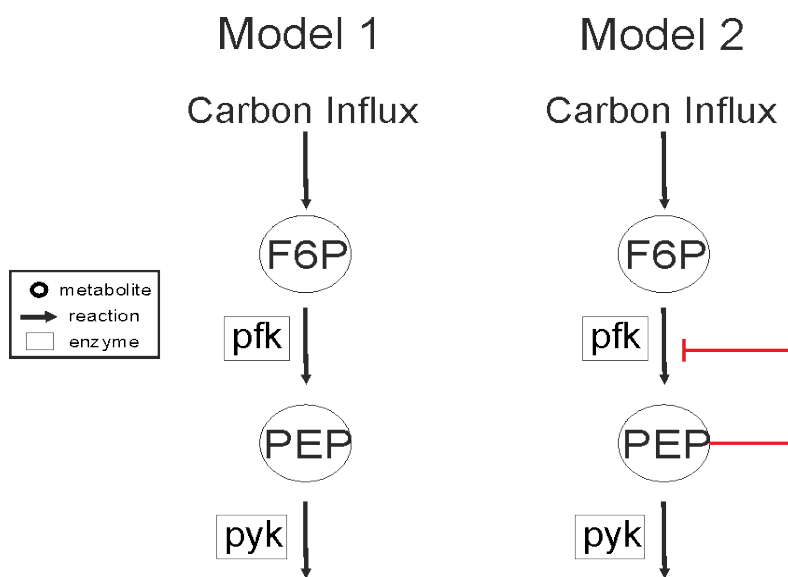

Figure 1: Reaction scheme of Model 1 and Model 2
The goal of this exercise is to formulate and implement a simple kinetic model of two metabolic reactions (Figure 1) with and without regulatory interactions.
- 1) Based on the reaction scheme in Figure 1, write the Balance Equations for the species' concentrations of **Model 1** under the assumption of Michaelis Menten kinetics and a constant Carbon Influx.